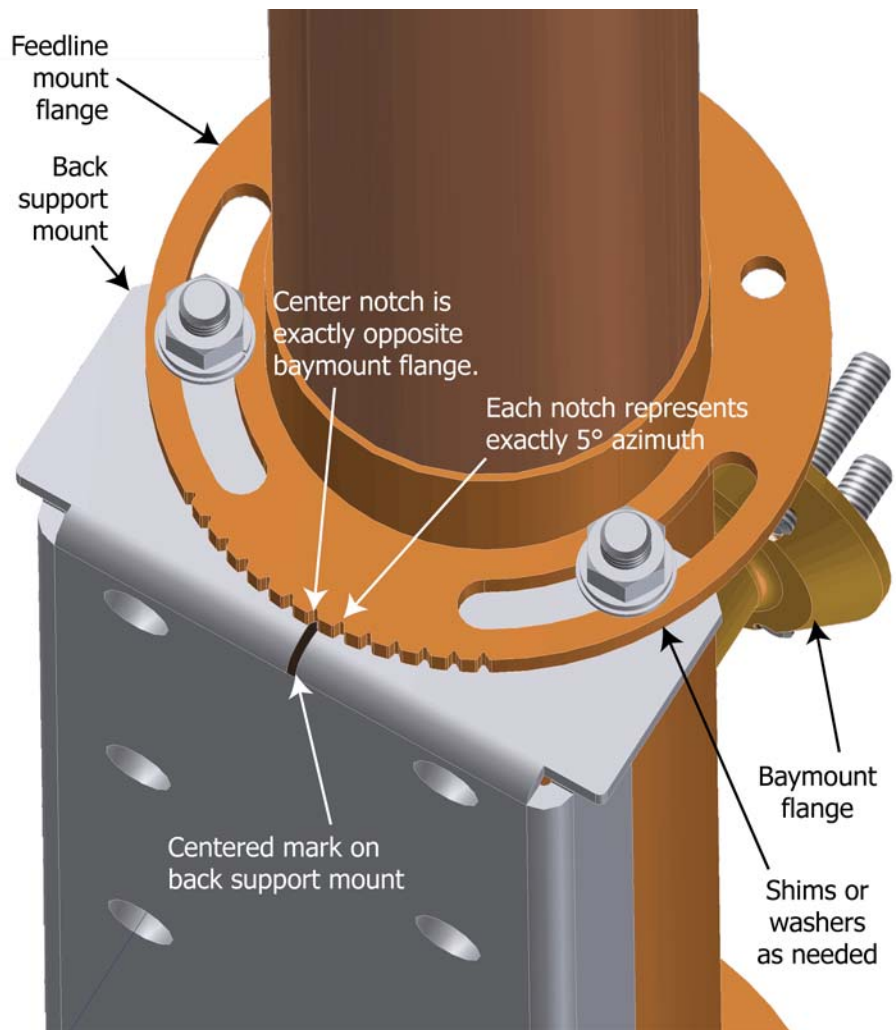

Figure 1. Attach the back support mount
- (1) Lay a feedline section horizontally, supported off the ground, with its baymount flange pointing downward.
- (2) Study your installation drawing. There is a detail identifying the correct azimuth rotation of the antenna bays from the tower mounting surface.
- (3) Now look at the feedline, with its upper and lower mount flanges. The upper feedline mount flange has a series of notches cut into it (Figure 1). The center notch is exactly opposite the baymount flange. Each notch represents five degrees (5°) of azimuth rotation. Align the centered mark on the back support mount to the notch representing the azimuth rotation identified on the installation drawing.